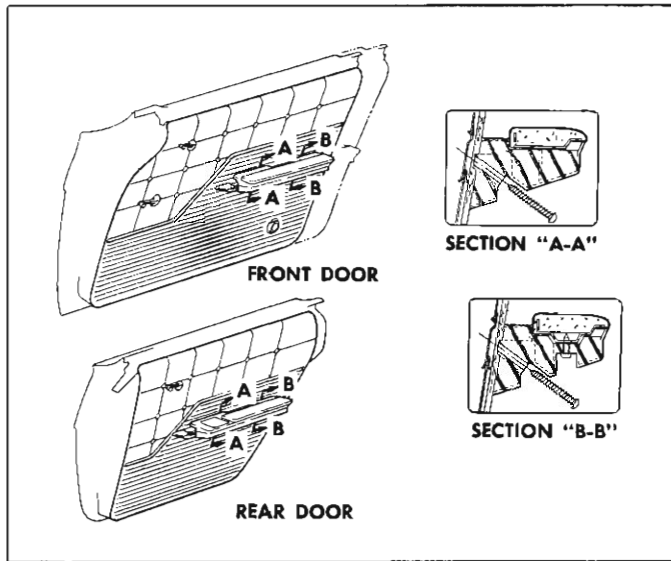

Fig. 6—Front and Rear Door Trim Assemblies
1. Remove screws securing arm rest assembly to door inner panel and remove assembly (see Figure 6).